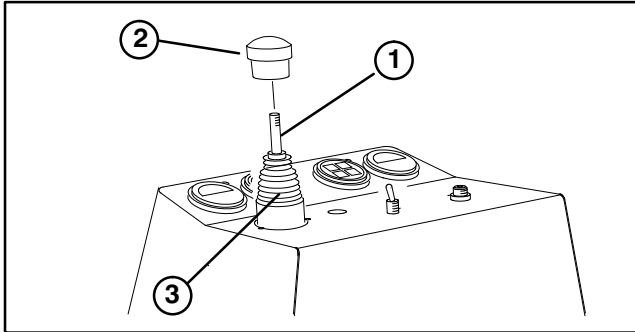

Figure 4
INSTALL LIFT CONTROL KIT (Fig. 4 & 5)
1. Unthread knob from lift control shaft (Fig. 4).
2. Remove boot, washer and snap ring from lift control shaft (Fig. 4).